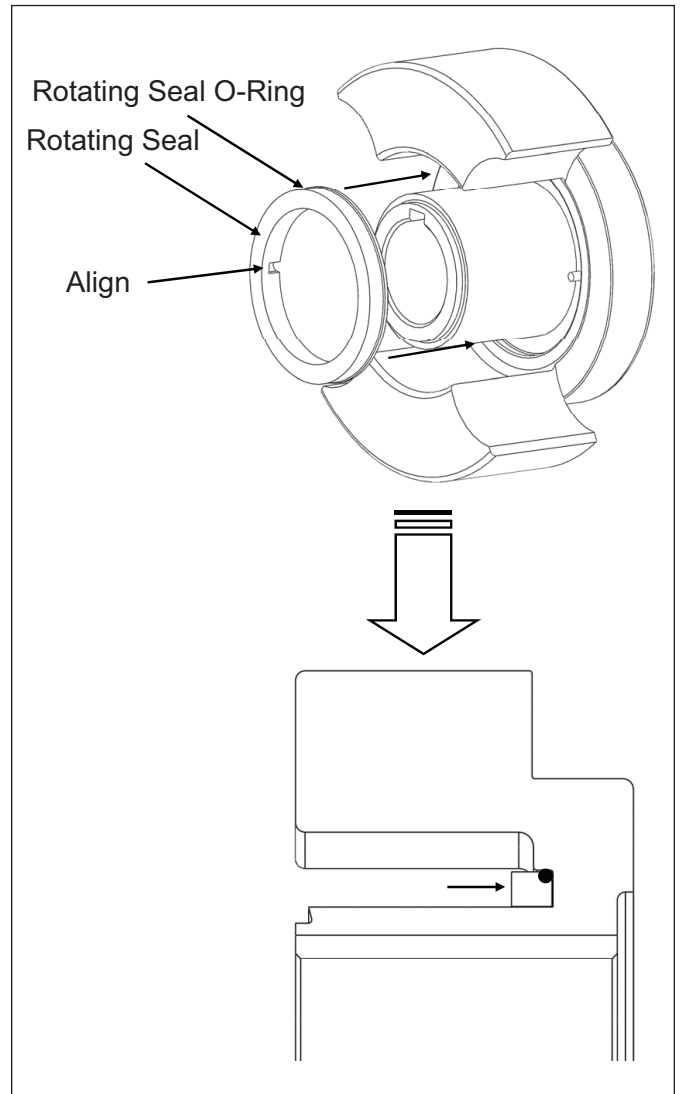

Figure 30. Inserting Rotating O-Ring
- Slide the rotating seal onto the rotor hub (Figure 30) making sure to align the slots on the seal to the drive pins in the rotor. Press the seal down until it seats inside of the rotor.